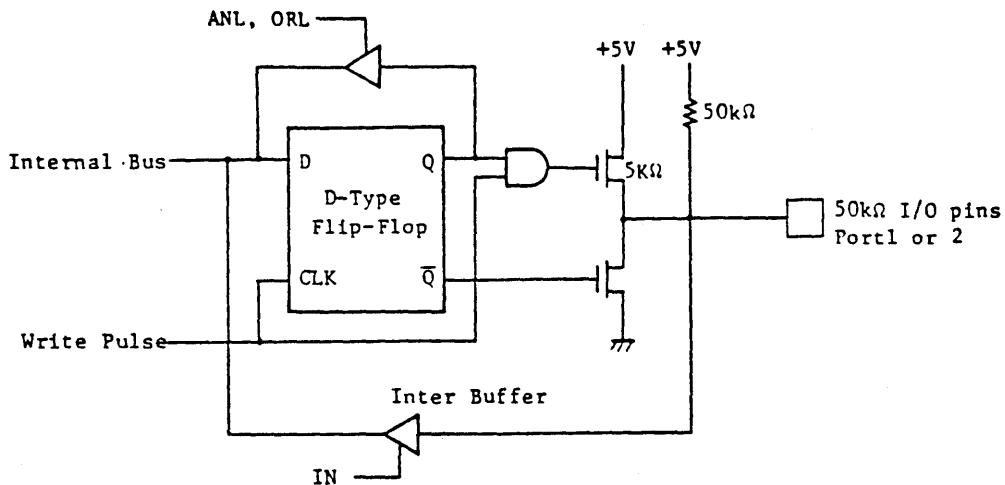

Fig.1 Input/Output Circuit of Port 1, Port 2
(3) Input/Output Ports
- All lines of Ports 1 and 2 are called quasi-bidirectional because of a special output circuit structure (illustrated in Figure 1). Each line is continuously pulled to a +5V level through a high impedance resistive device (50kohm) which is sufficient to provide the source current for a TTL high level yet can be pulled low by a standard TTL gate thus allowing the same pin to be used for both input and output. In order to speed up the "0" to "1" transition a low impedance device (5kohm) is switched in momentarily whenever a "1" is written to line. When "0" is written to line a low impedance device overcomes the pullup and provides TTL current sinking capability.